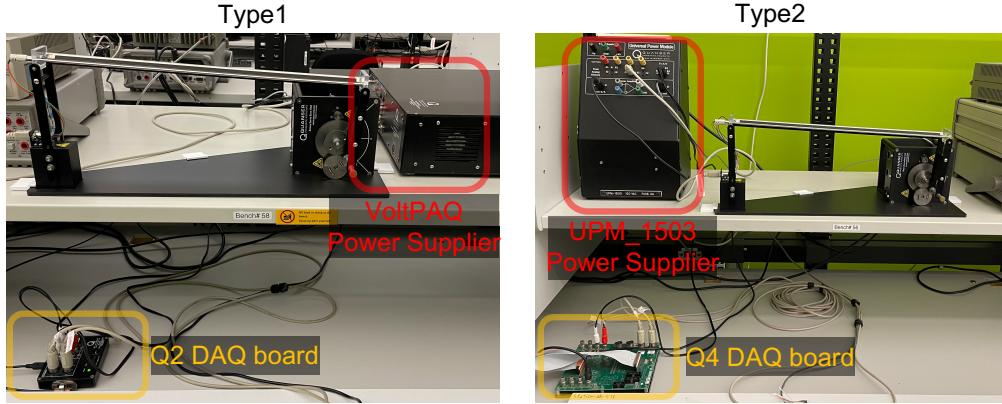

Figure 5: Two different type of hardware setup.
1. There are mainly two type of setups (Figure 5):